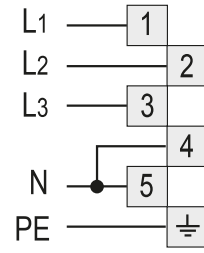
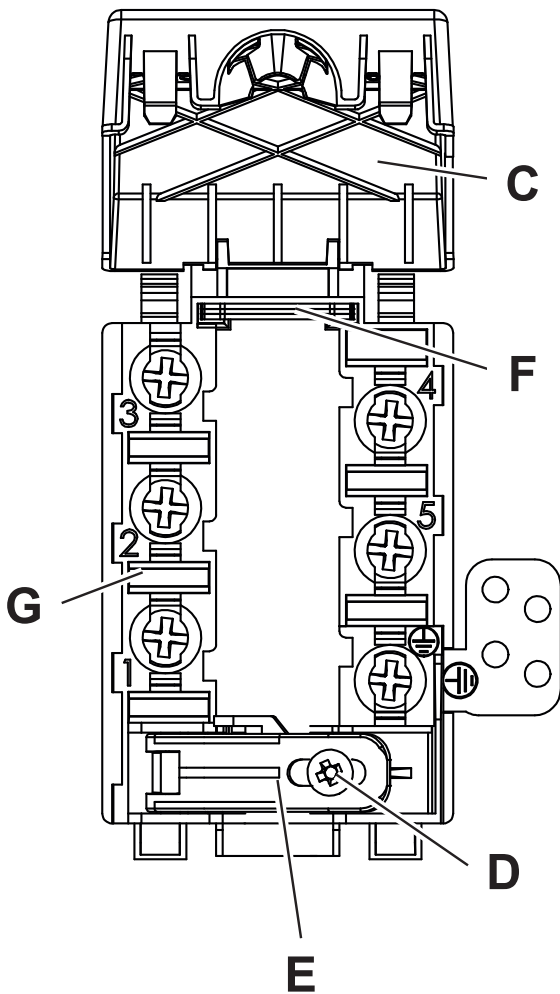

Fig. 3.3
Fig. 3.4
- Unscrew the screw “D” and open completely the cable clamp “E” (figs. 3.4).
- Position the U bolts “F” onto terminal board “G” (figs. 3.4) according to the diagrams in fig. 3.3.
- Connect the phase and earth wires to terminal board “G” according to the diagrams in fig. 3.3.